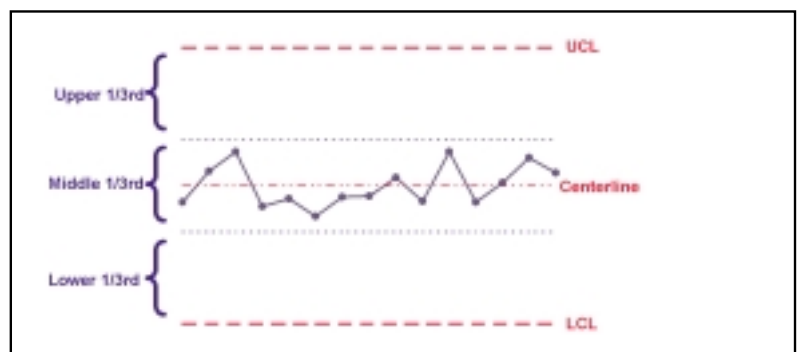

Figure 11—Subgroups within the middle third of the chart.
- 4.) To be stable and in control, two-thirds of the points must be within the middle one-third of the chart. The chart’s one-third band is determined by dividing the difference of the UCL – LCL by three (Figure 11).